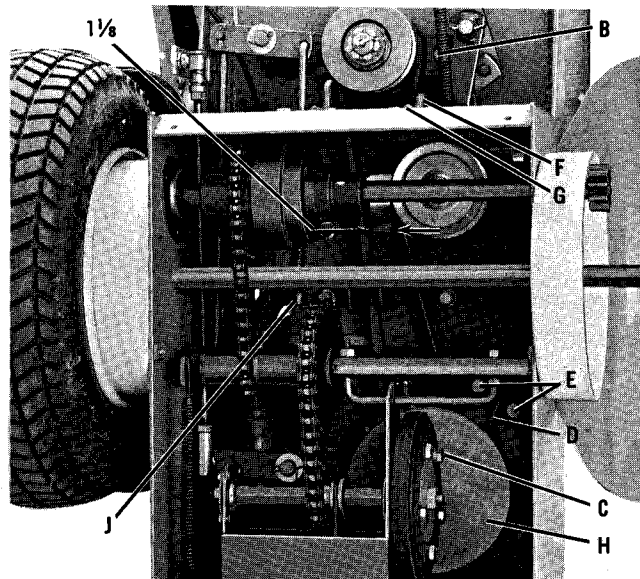

Figure 2
a. To adjust belt tension, loosen nuts (B, Figure 2) on PTO bracket.
b. Move assembly in slots until the distance between the inside of the belt is approximately 1-1/8 inch with idler pulley engaged. Retighten nuts. (See Figure 2).
b. Remove five cap screws (C, Figure 2) and take off rubber friction disc.
c. Remove two cap screws (E, Figure 2) and take off rear belt fingers (D, Figure 2).
d. Remove cap screw (G, Figure 2) and take off front belt fingers (F, Figure 2).
e. Loosen nuts (B, Figure 2) on PTO bracket and slide assembly to bottom of slot.
f. Take belt from PTO pulley, train around drive plate (H, Figure 2) and out.
Replace friction disc by removing five whizlock screws (C, Figure 2). When replacing, be sure disc is located over shoulder properly and flush against face of hub.
b. Adjust set collar (J, Figure 2) against spring until brake band just clears differential housing.